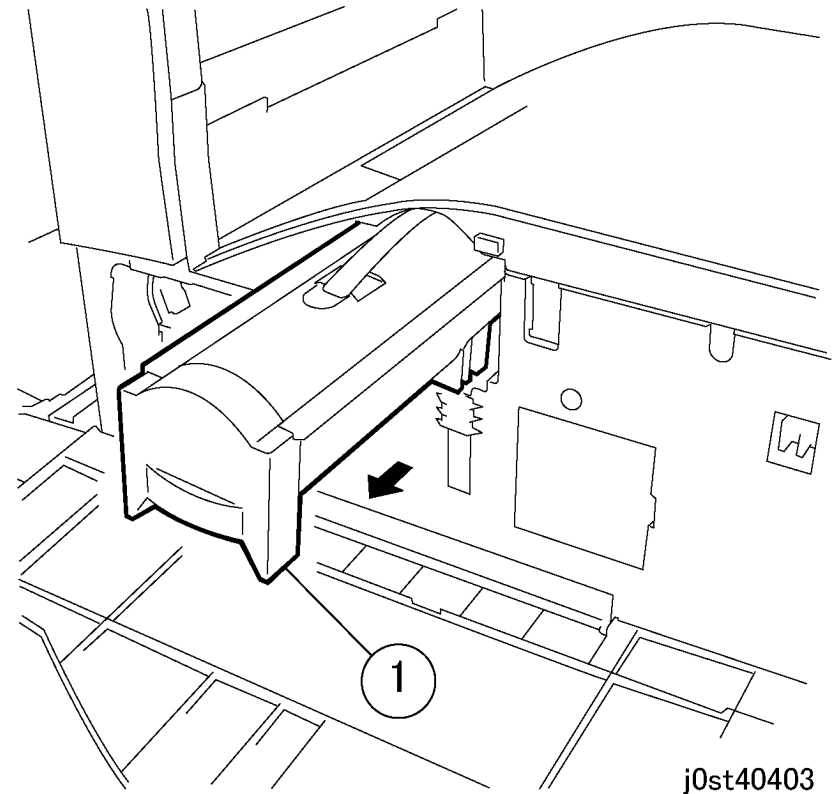

Figure 1 Removing the Toner Cartridge (j0st40403)
2. Remove the Toner Cartridge. (Figure 1)